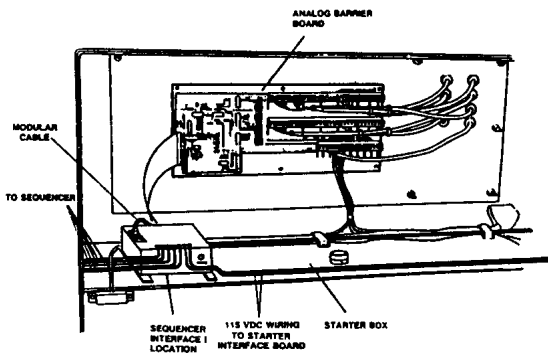

FIGURE 2
1. Remove the aluminum back cover from the Intellisys Controller. (See Figure 2).